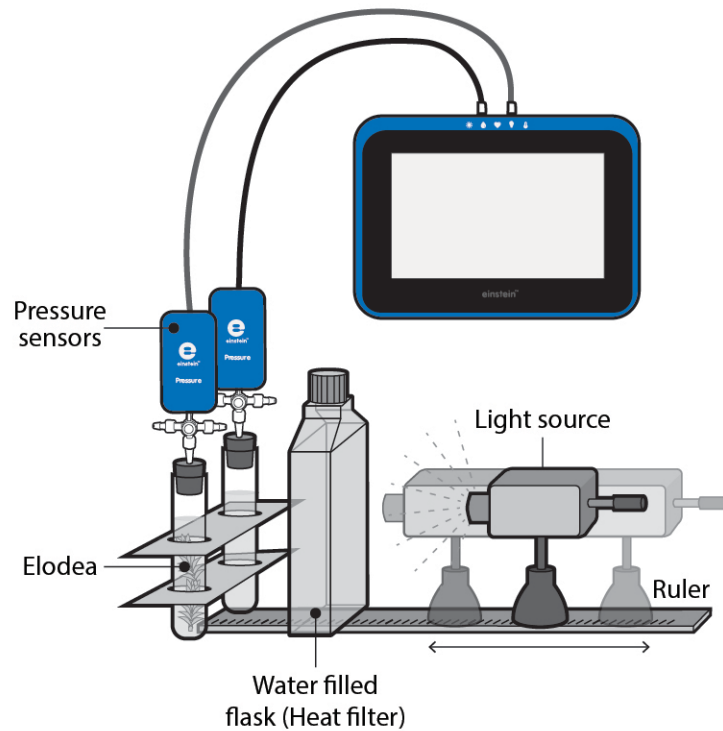

Figure 1
4. Assemble the equipment as illustrated in Figure 1.